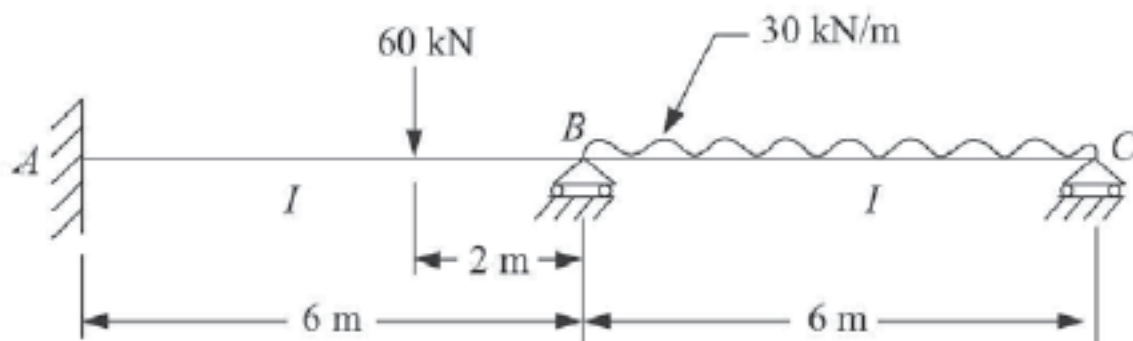

Figure Q1
- a) Analyse the two span continuous beam shown in **Figure Q1** by slope deflection method and draw the bending moment and shear force diagrams. EI is the same throughout.